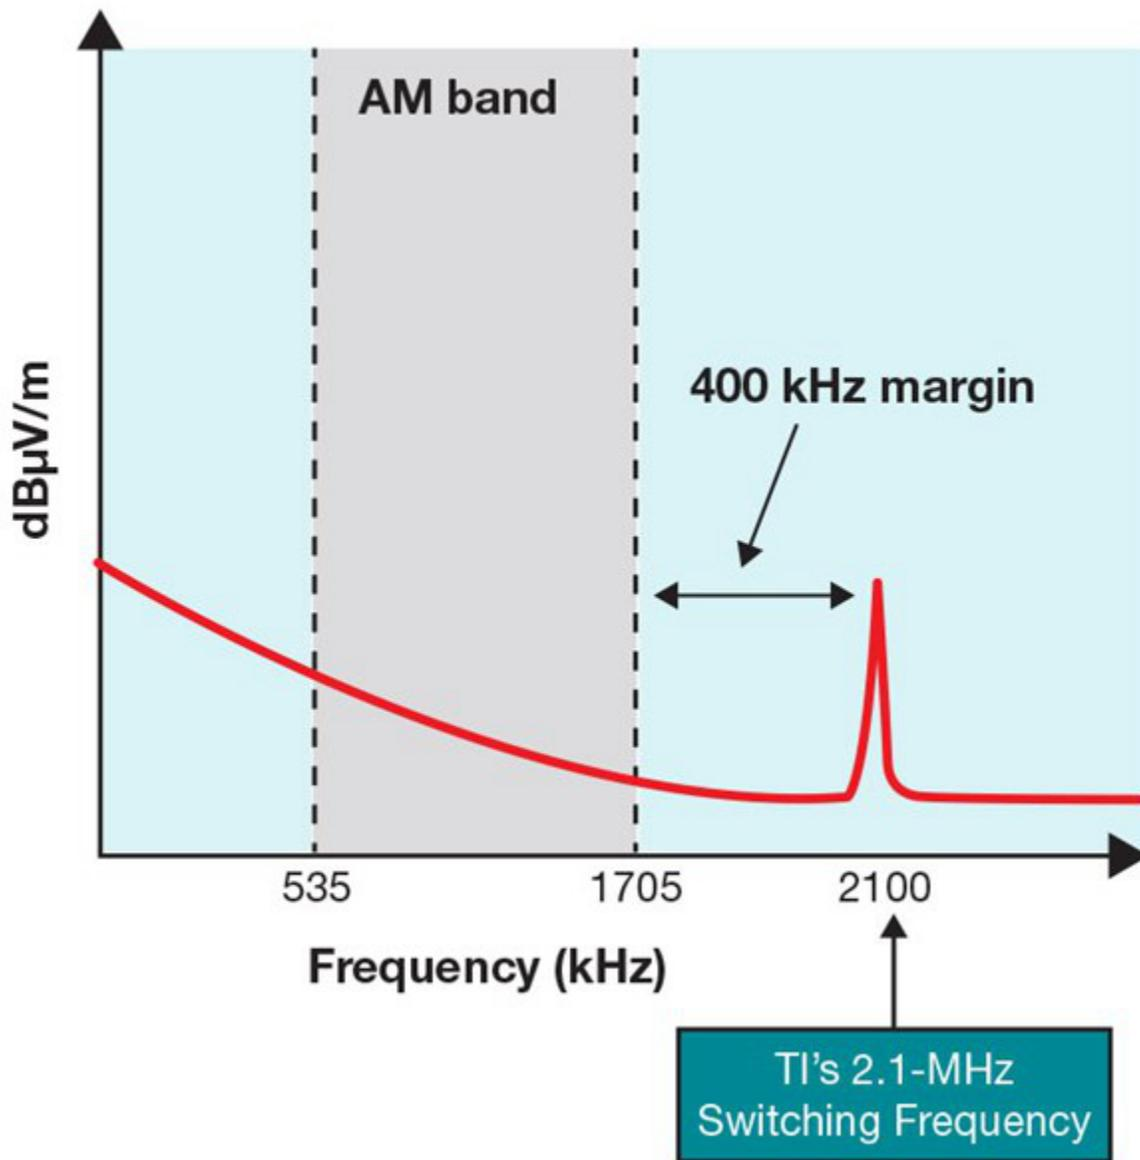

Figure 5. The TPA6304-Q1'S High Switching Frequency above the AM Band
- By operating at a much higher 2.1-MHz switching frequency, the TPA6304-Q1 eliminates the need to implement an EMI avoidance scheme for the AM band because the TPA6304-Q1 amplifier provides significant margin above the AM band. This design is also free of any lower-frequency spikes that would interfere in the AM band, as shown in Figure 5.